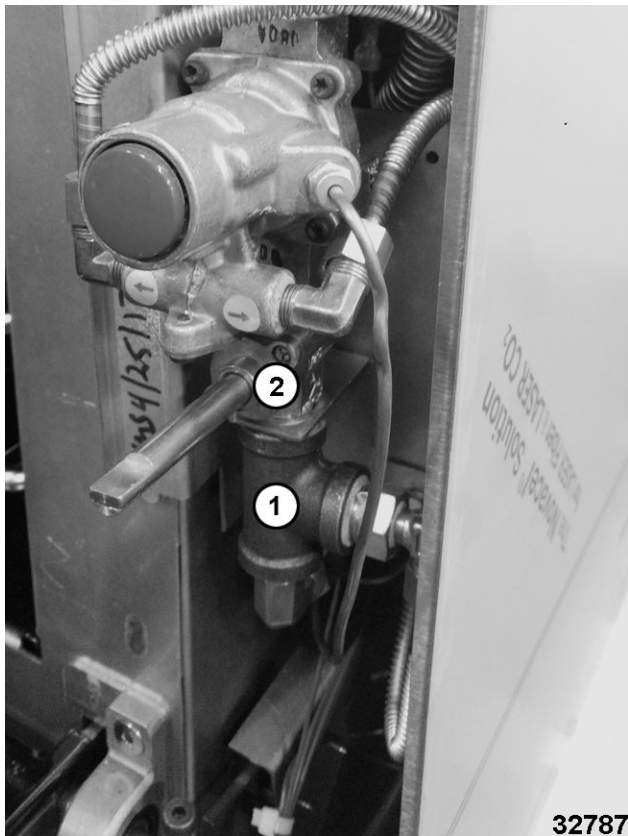

Fig. 43
3. Remove flex line and tee fitting (1, Fig. 43) from bottom of manual gas shut-off valve (2, Fig. 43).